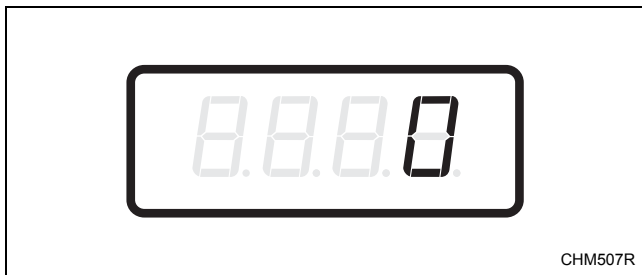

Figure 7
4. When “AtSn” appears in the display, press the START (enter) keypad. There are five digits in the No Heat Vend Price. The fifth digit will appear in the display and will flash one second on, one second off. Refer to *Figure 7*.